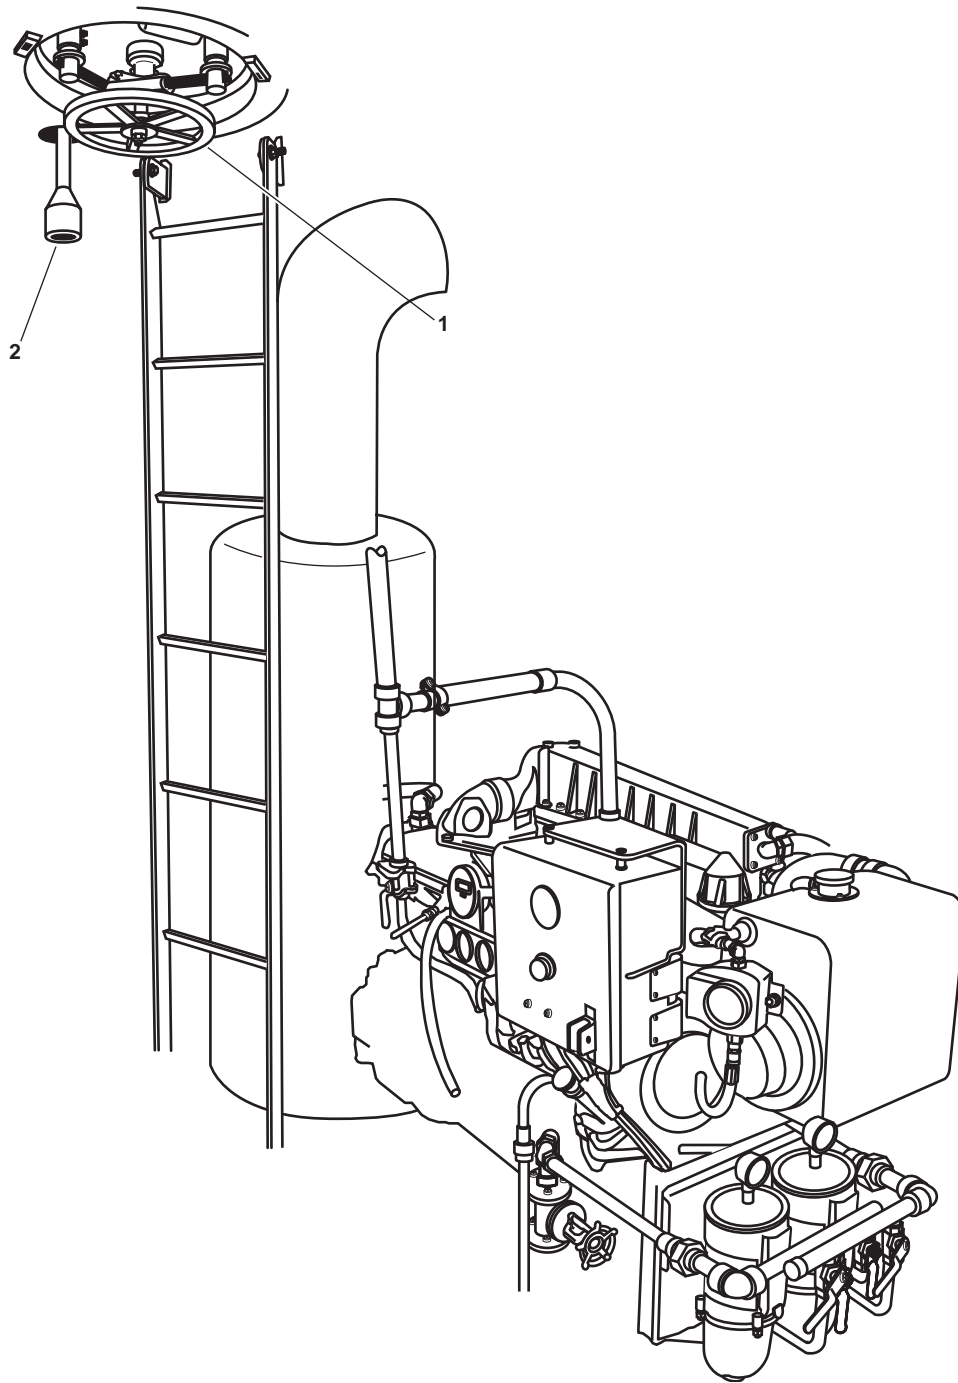

Figure 9. AMS 1 Emergency Escape Scuttle
- i. AMS 1 emergency escape scuttle (figure 9, item 1)
1. Wait at least 15 minutes after extinguishing the fire before performing this procedure. The natural decay rate for Hydrogen Fluoride (HF) gas is approximately 15 minutes after a fire is extinguished.
- a. Remove the cap (figure 2, item 2) from the aft HF sampling port (figure 2, item 3) located in the main deck vestibule or the forward HF sampling port (figure 9, item 2) located in the damage control locker.